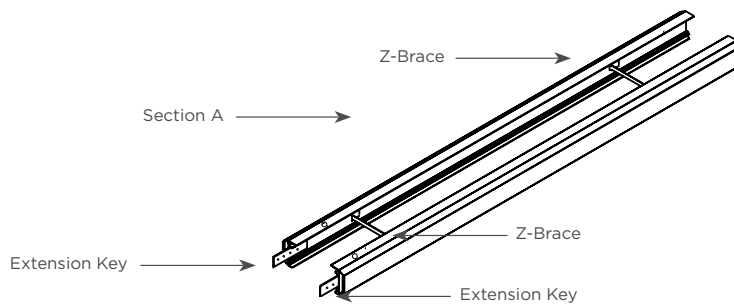

Figure 3
- 4 Insert two extension keys approximately halfway into frame section A as shown in figure 3. Tighten screws on each side with a 1/16" Allen wrench.